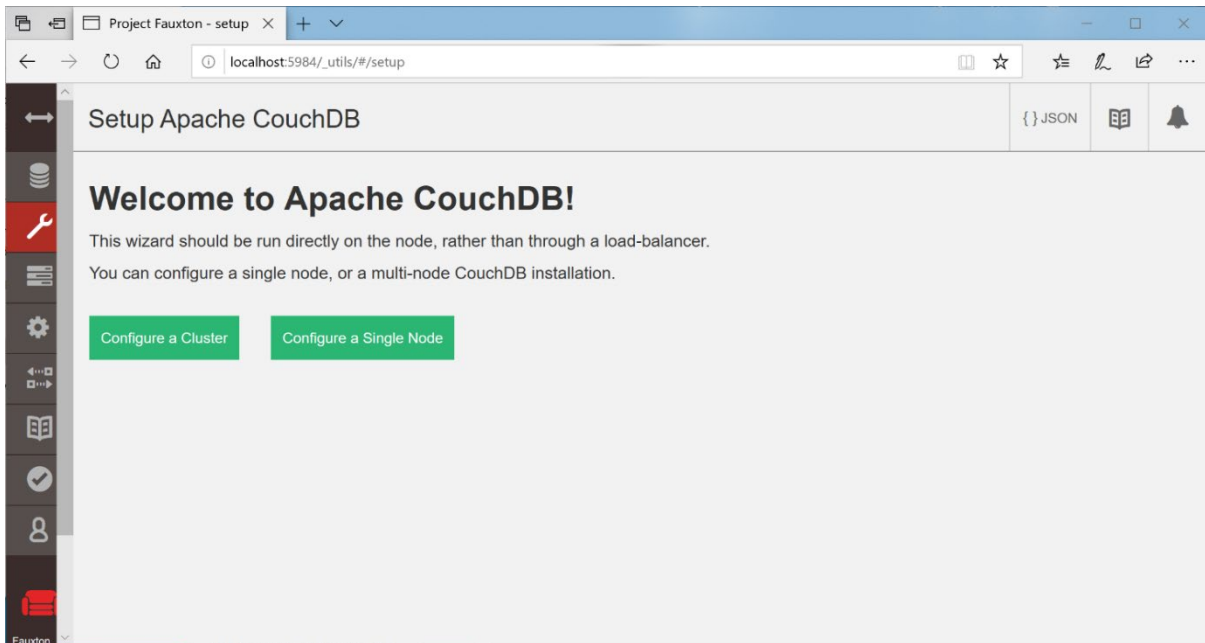

Figure 3-4 Configuring Single Node
- d. Now configure as a single node (see Figure 3-4).